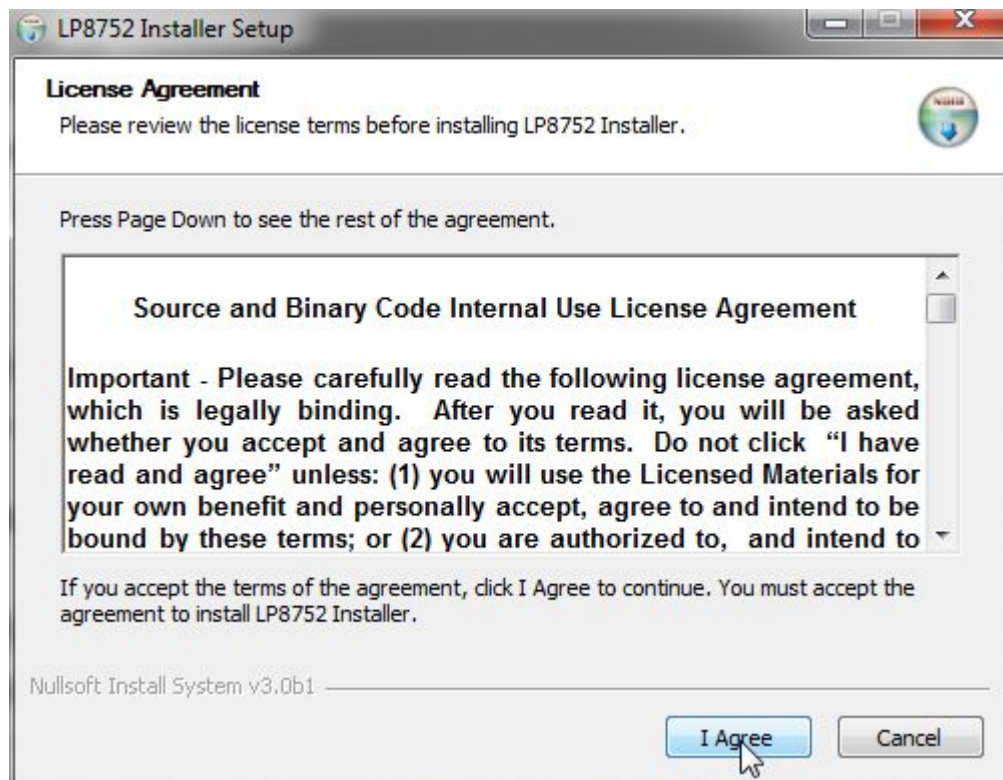

Figure 2. LP8752 Installer License Agreement
2. Installer prompts to accept the license agreement (see Figure 2).